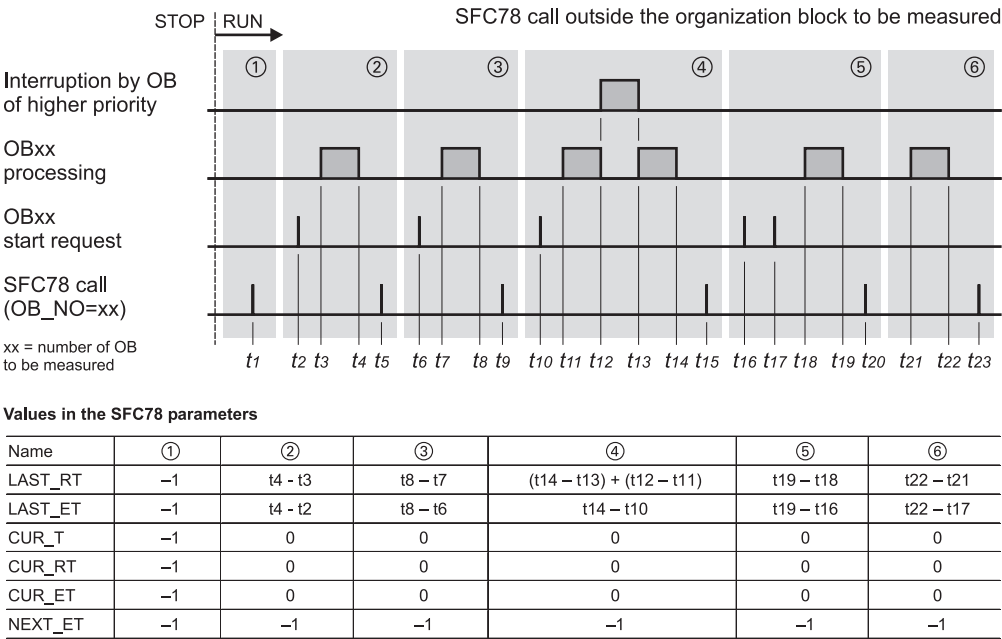

Figure 20.6 Call of SFC 78 Outside the Organization Block to be Measured
Figure 20.6 shows a number of examples of calling the SFC 78 outside the OB to be measured. The start values following a STOP/RUN transition are -1 (example ①).